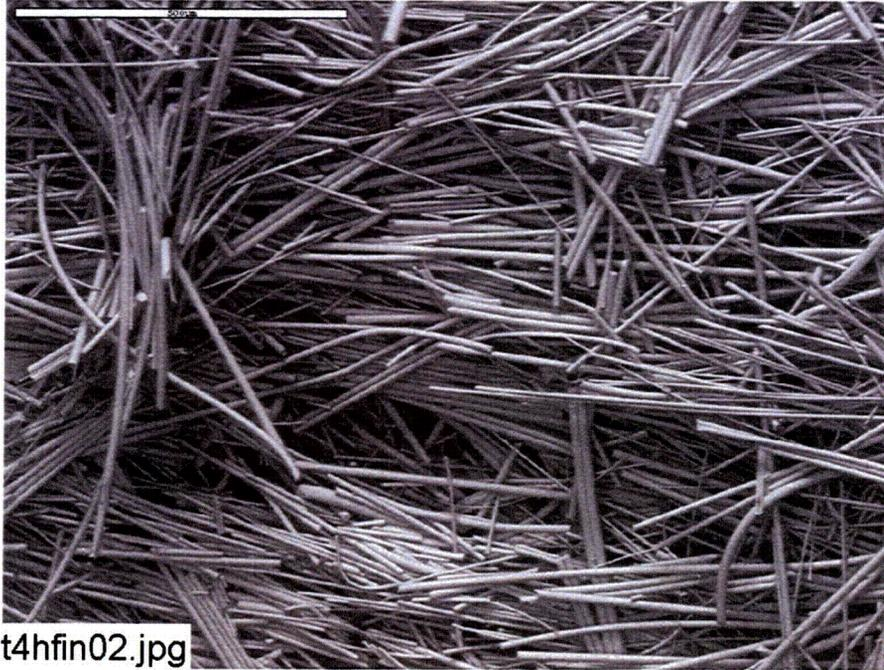

Figure C4-7. Environmental SEM image magnified 100 times for a Test #4, Day-30 interior high-flow fiberglass sample. (t4hfin02.jpg)
- Figure C4-7. Environmental SEM image magnified 100 times for a Test #4, Day-30 interior high-flow fiberglass sample. (t4hfin02.jpg)..... C4-7